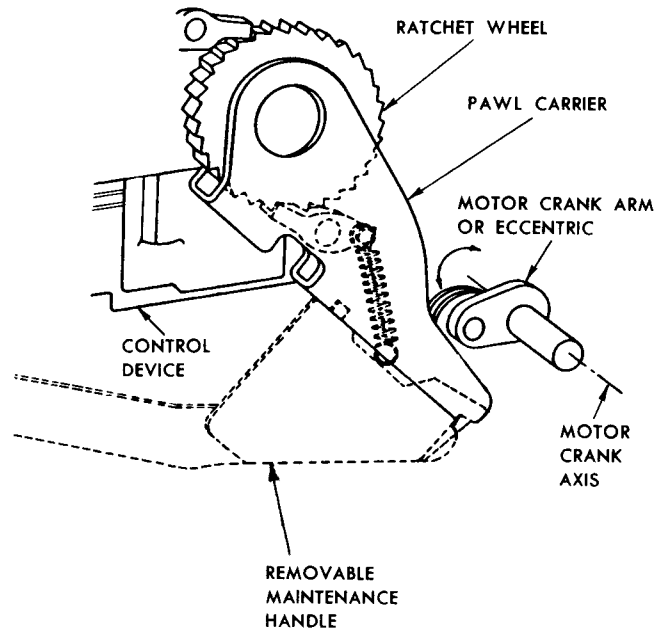

Fig. 7. How to Insert the Maintenance Handle.
2. Manually charge the closing springs using the removable Maintenance Handle. Insert the handle in the two slots in the PAWL CARRIER (see Figure 7). Then raise and lower the handle in a pumping motion until the PAWL CARRIER no longer rotates the RATCHET WHEEL. The closing springs are now fully charged. Upon occasion, the MOTOR CRANK ARM may stop in such a position as to prevent a full racking stroke, requiring it to be rotated manually. If this happens, pry the motor crank arm off center with a large screw driver. You can move it either clockwise or counter-clockwise. The closing springs may then be charged as described above.